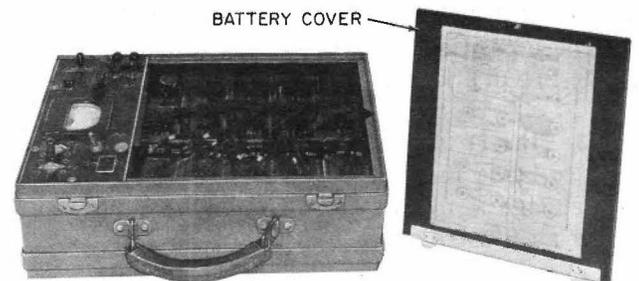

Fig. 18—Battery Replacement
9.04 See Fig. 18 for battery replacement.